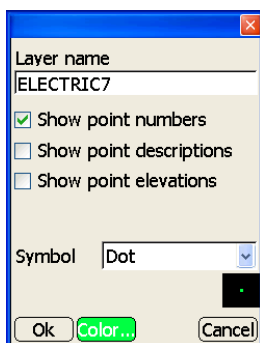

Figure 3-85. Layers
- New – on the **Layers** dialog box, press **New** to create a layer, then press **Ok** to save the information (Figure 3-85 on page 3-56).
- Edit – on the **Layers** dialog box, press **Edit** to edit the selected layer. See the “New” bullet on page 3-55 and Figure 3-85 for details on editing the layer.